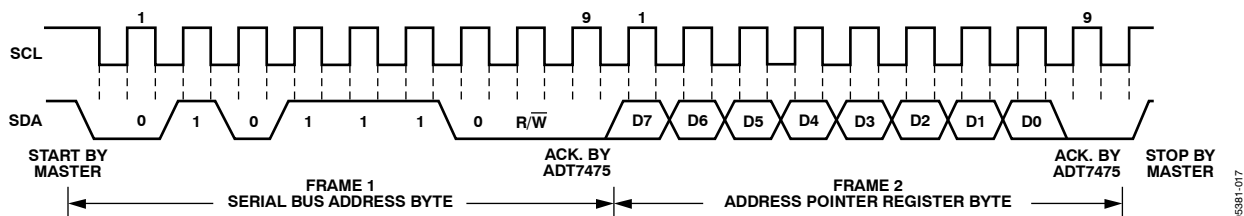

Figure 15. Writing to the Address Pointer Register Only
- If the ADT7475 address pointer register value is unknown or not the desired value, it must first be set to the correct value before data can be read from the desired data register. This is done by performing a write to the ADT7475 as before, but only the data byte containing the register address is sent, because no data is written to the register (see Figure 15).